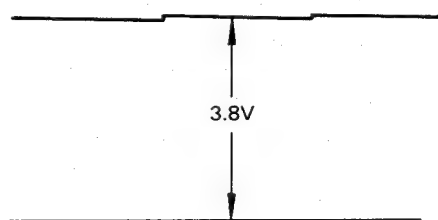

Figure 37
2. Observe TP5 on a oscilloscope, and adjust R724 to give 3.8V as shown in Figure 37.